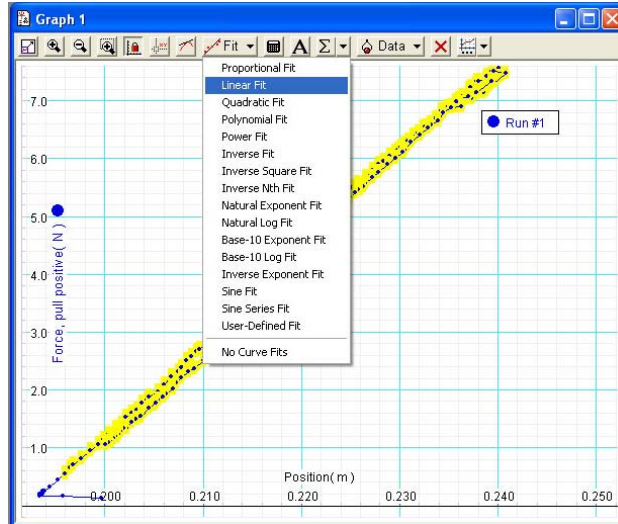
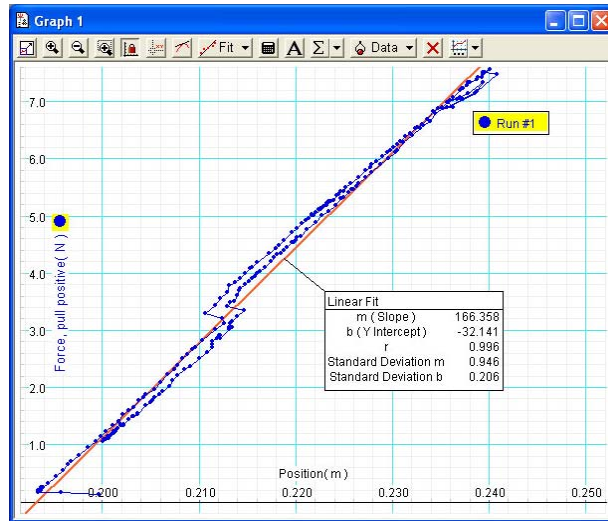

Figure 6. Select Linear Fit.
Figure 7. The slope of the linear fit is the beam stiffness.
7. Select the data by drawing a box around it with the mouse and choose the linear fit under the Fit drop down list (Figure 6). The slope (m) displayed on the graph (see Figure 7) of the resulting linear fit is the beam stiffness, k , for this particular beam length, L . Record the value of the slope (beam stiffness) because you will be using this data later.